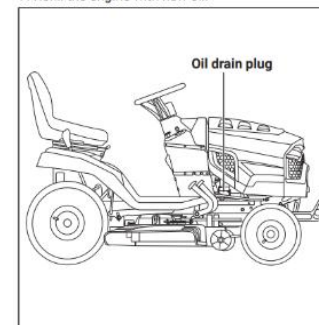

Fig. 9
1. **Remove the dipstick. Wipe off the remaining oil from the dipstick. (Fig. 9)**